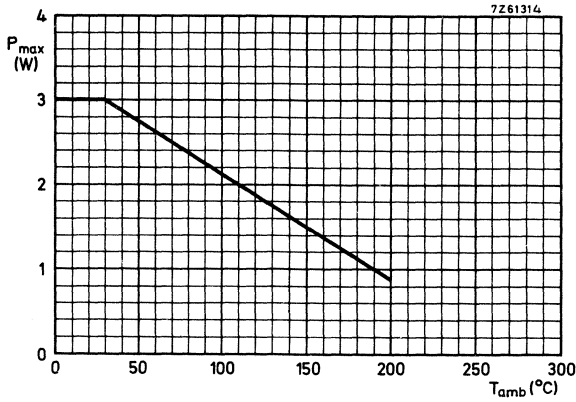

Fig. 4 Maximum permissible dissipation P_{max} versus ambient temperature
1) For rated dissipation see Fig. 4 (dissipation at $T_{amb} = 25^{\circ}\text{C}$ and max. hot spot)